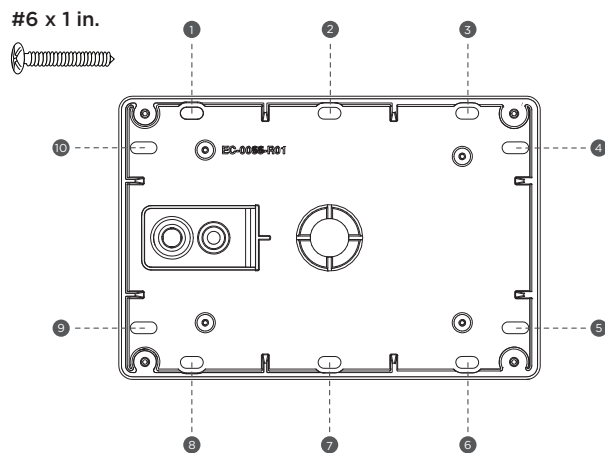

Figure 2: Mounting Hole Locations
2. Mount the backbox to a wall or other flat surface with the included #6 X 1 in. screws. For mounting hole locations, refer to Figure 2.